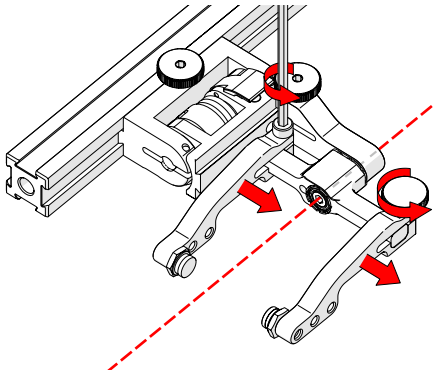

Fig. 192 - Adjust probe holder arms
5. Loosen the probe holder arm adjustment knob (Fig. 192) and remove outer probe holder arm from yoke.
6. Adjust inner probe holder arm as required to best centre the probe on the yoke's pivot axis (Fig. 192).